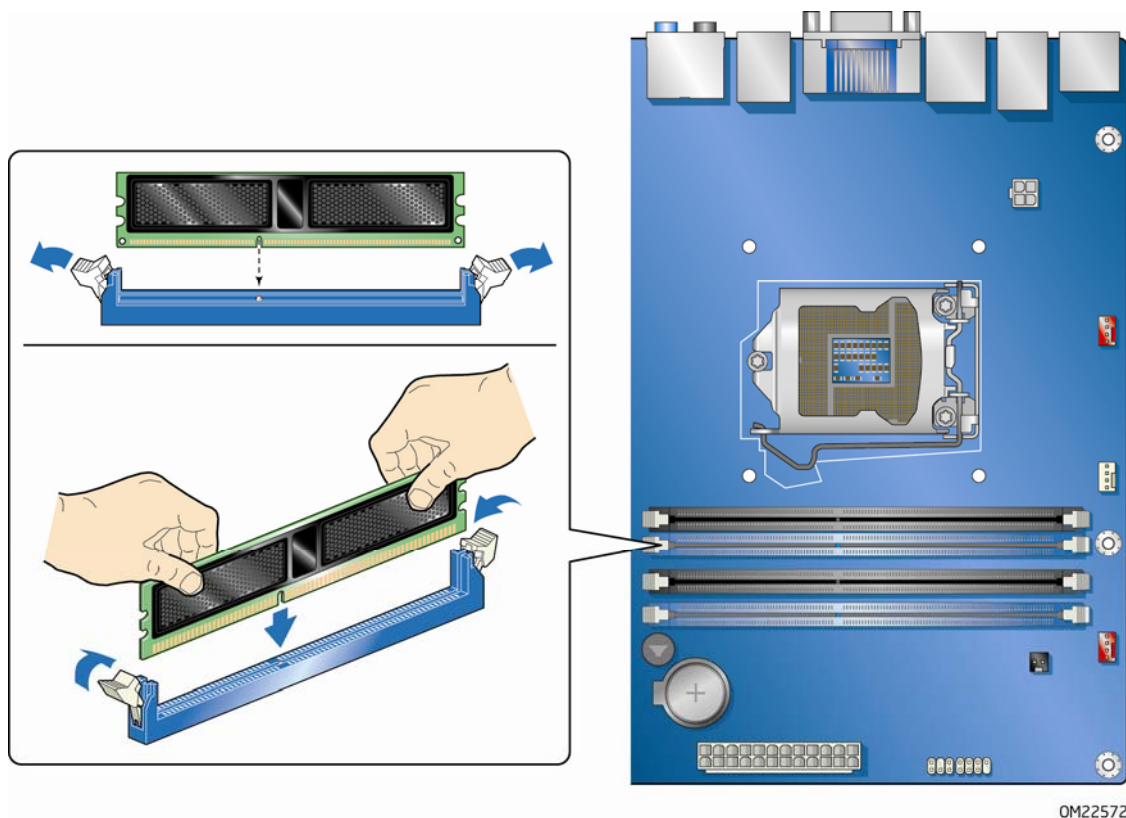

Figure 16. Installing a DIMM
3. Remove the computer's cover and locate the DIMM sockets (see Figure 16).
7. Position the DIMM above the socket. Align the small notch at the bottom edge of the DIMM with the keys in the socket (see inset in Figure 16).